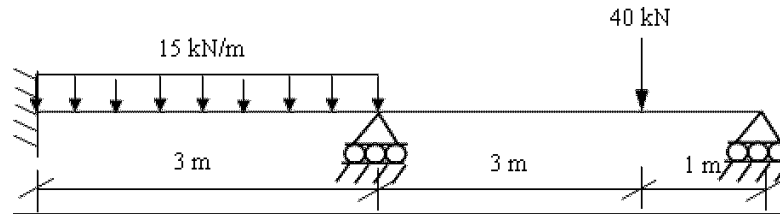

Figure 4
Q. 3 (b) Analyse the continuous beam as shown in figure 4 using theorem of three moments and hence draw the SFD and BMD. **L 4 06**